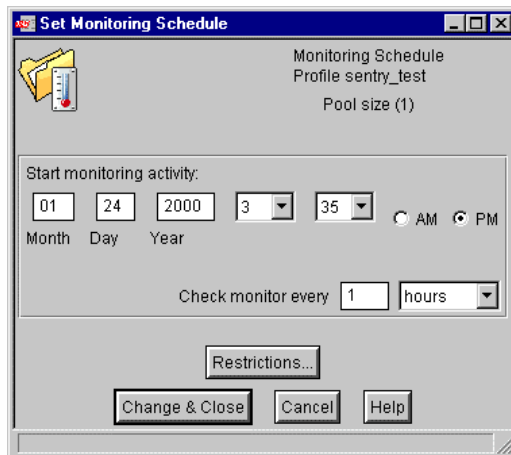

Figure 117. Setting monitoring schedule
6. The next step is to select the **Set Monitoring Schedule** to set up the time that the monitor will first fire. After that, it will fire at regular intervals. The Set Monitoring Schedule is shown in Figure 117 on page 240.